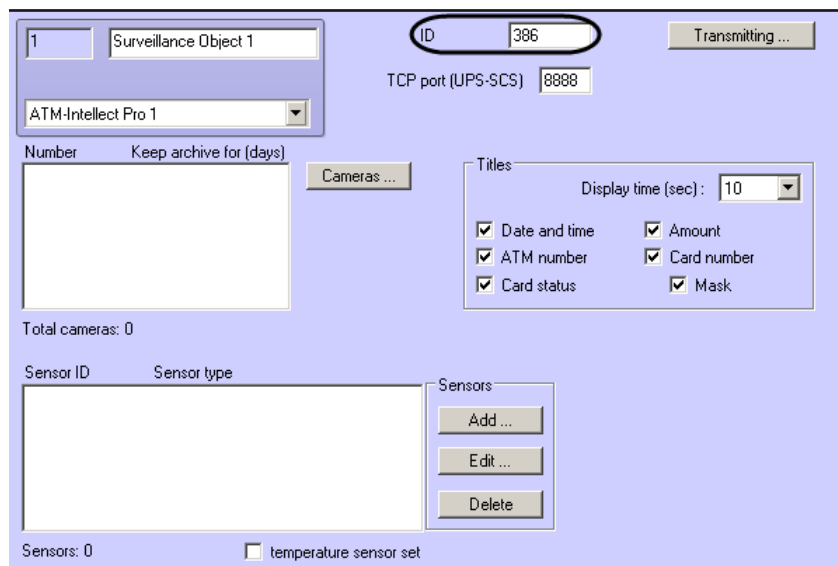

Fig. 8.4—1 Setting Surveillance Object ID
1. Go to the **Surveillance Object** object setting panel (Fig. 8.4—1).
2. In the **ID** field enter the unique ID number of the object on which *ATM Intellect Pro* is installed (Fig. 8.4—1). May contain 3 to 9 characters.